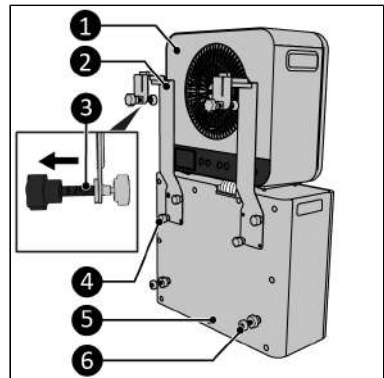

Figure 31.
1. Place the indoor unit (Figure 31, pos. 1) loose on top of the outdoor unit (Figure 31, pos. 5).
2. Remove the four screw caps (Figure 31, pos. 4).
3. Attach both bottom caravan brackets (Figure 31, pos. 2) to the outdoor unit by tightening two screws per bracket (Figure 31, pos. 4).
4. Make sure to screw the adjustment bolts (Figure 31, pos. 3) as far out as possible.
5. Attach the distance holders (Figure 31, pos. 6) to the outdoor unit (Figure 31, pos. 5).
13. Make sure the outdoor unit is level by adjusting the distance screws spacer (Figure 31, pos. 6).